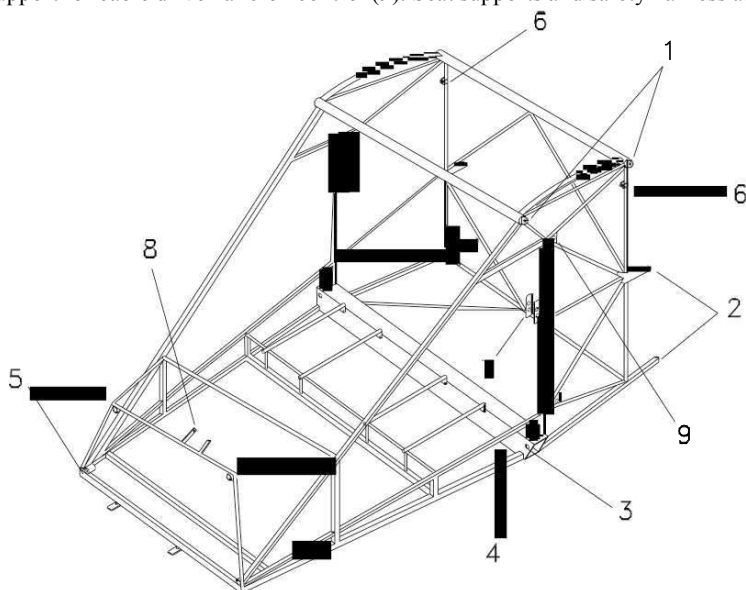

Figure 4-10 Cabin truss
The front part of the fuselage is made up of a mixed structure: a truss structure with special steel members for cabin survival cell (fig. 4-10), and a light-alloy semi-monocoque structure for the cabin's bottom section.
Forward truss structure drawing (fig. 4-10) shows location of attachment points for half-wing (1), aft section (2), brace-strut (3), main landing gear (4), engine mount (5), flap torque tube (6), stabilator bellcrank (7), throttle support (8) and pulley support for cable driven aileron control (9). Seat supports and safety harness attachment points are also shown.